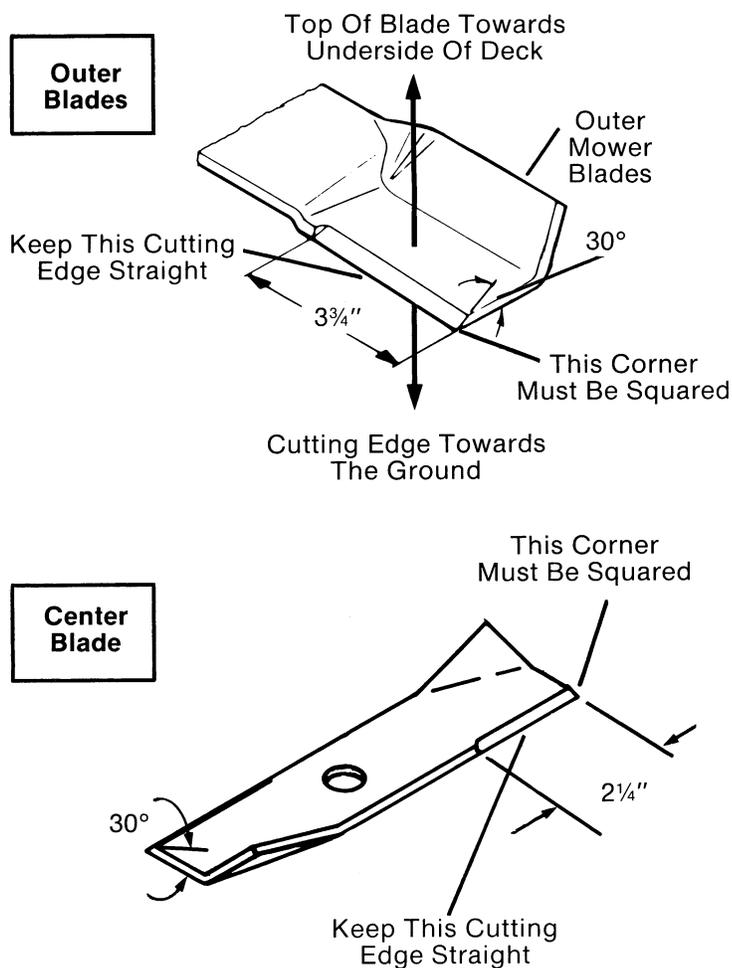

FIG. 14
D. Sharpen blades following the original blade cutting edge contours. Refer to (Fig. 14) for correct blade sharpening dimensions and instructions.
F. After balancing, remount blades flush onto spindle assembly. Be sure blade is mounted so cutting edge is towards the ground. (Fig. 14) Replace blade mounting hardware and tighten capscrews to a torque of 30 - 40 ft./lbs.